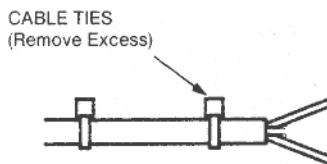

Figure 3: Strain relief detail
5. Place the two plastic cable ties on the outer insulation of the field wire. Tighten securely and remove the excess cable tie with the wire cutting pliers. The two cable ties act as strain relief, as shown in Figure 3, to eliminate the possibility of breaking the wire connection at the terminals if the wire is pulled.